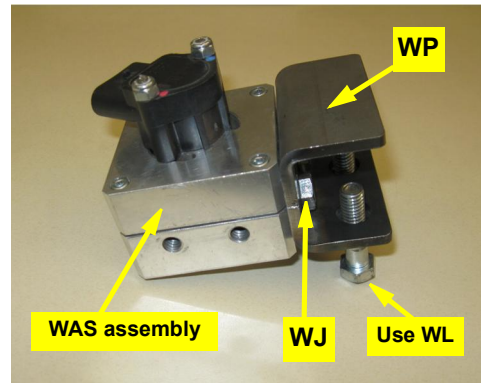

Figure 2g: WAS mounted on clamp bracket
- g. Using hardware **WJ**, attach the WAS assembly to bracket **WP** using the lower holes. The wire connector will face the left rear section of the tractor (Figure 2g).